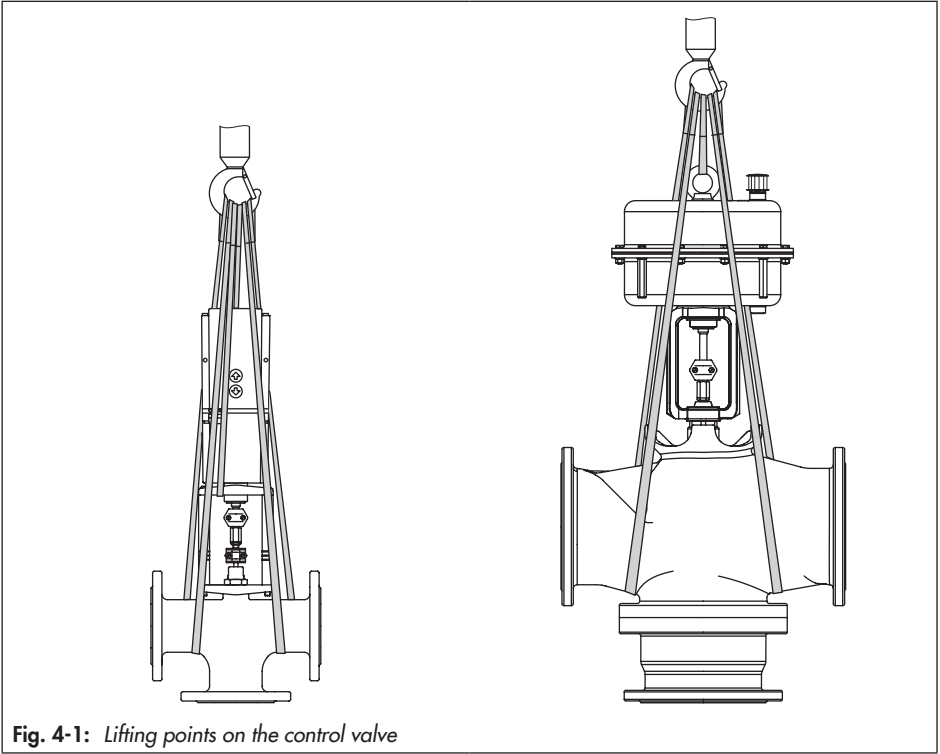

Fig. 4-1: *Lifting points on the control valve*
- Use a hook with safety latch (see Fig. 4-1) to secure the slings from slipping off the hook during lifting and transporting.
1. Attach one sling to each flange of the body and to the rigging equipment (e.g. hook) of the crane or forklift (see Fig. 4-1).